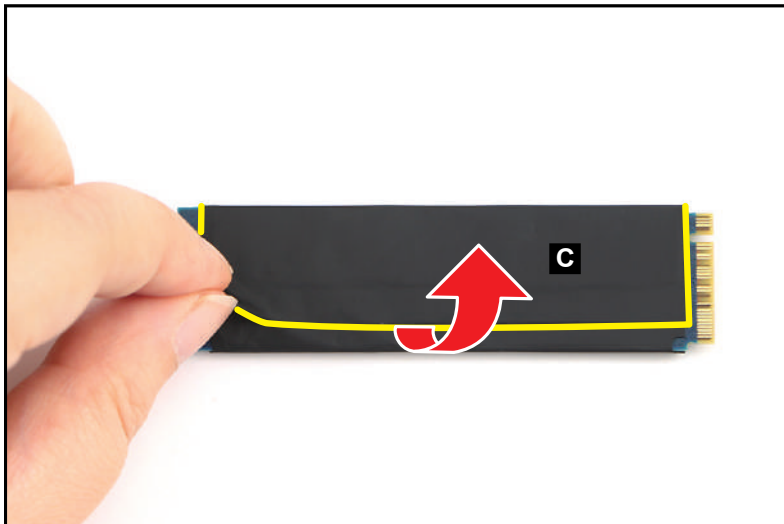
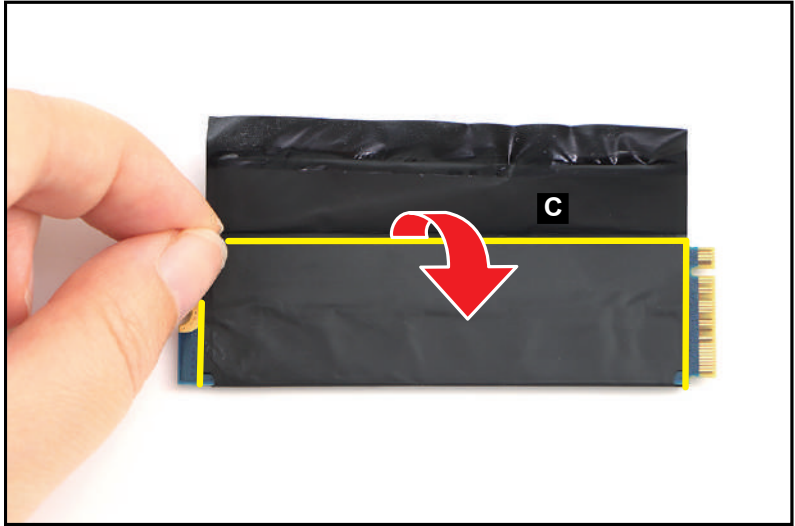

Figure 3-21. SSD Module Removal
Figure 3-22. SSD Module Removal
5. By holding the upper edge of the copper foil with mylar (C), unfold and detach it from the SSD module as shown in Figure 3-21 and Figure 3-22 but DO NOT remove yet!